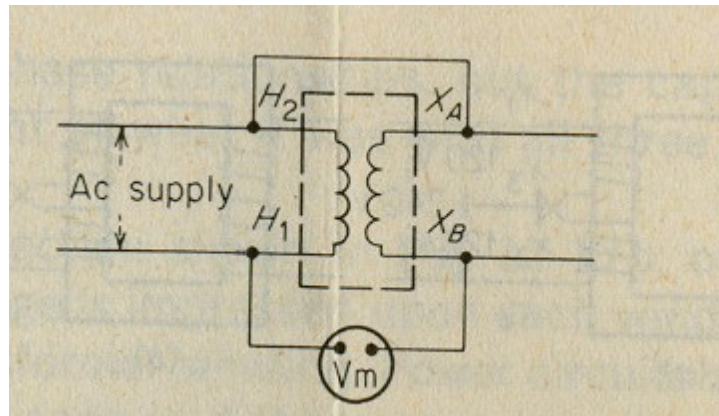

Figure 4: Connection for checking the polarity of a transformer
If the polarity of the transformer is not known, it may be determined by the test connections shown in figure 4. Here low voltage side terminals may be temporary marked as X_A and X_B as shown in figure. Adjacent terminals are then connected and a voltmeter is connected across the other two terminals H_1 and X_B . Any convenient voltage is then applied to the high voltage winding of the transformer. If the voltmeter reads less than the value of the applied voltage, the polarity is subtractive and the terminals X_A & X_B may be marked as the X_2 and X_1 terminals, respectively.
1. Make connections according to the given circuit fig 4 for T1 and find out the polarity.
2. Make connections according to the given circuit fig 4 for T2 and find out the polarity.